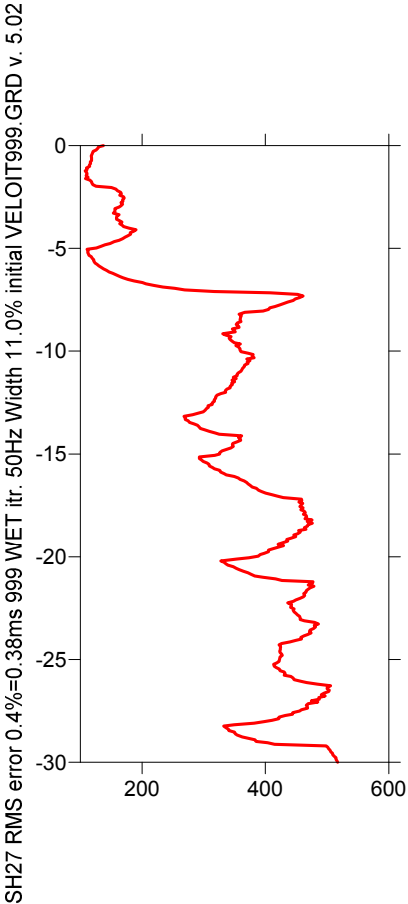

Fig. 25 : VSP velocity plot obtained in our latest version 5.03 software for final WET tomogram shown in Fig 21 (center)
12. select grid file C:\RAY32\SH27_Test\HOLETOMO\VELOIT999.GRD and click **Open** to obtain Fig. 25